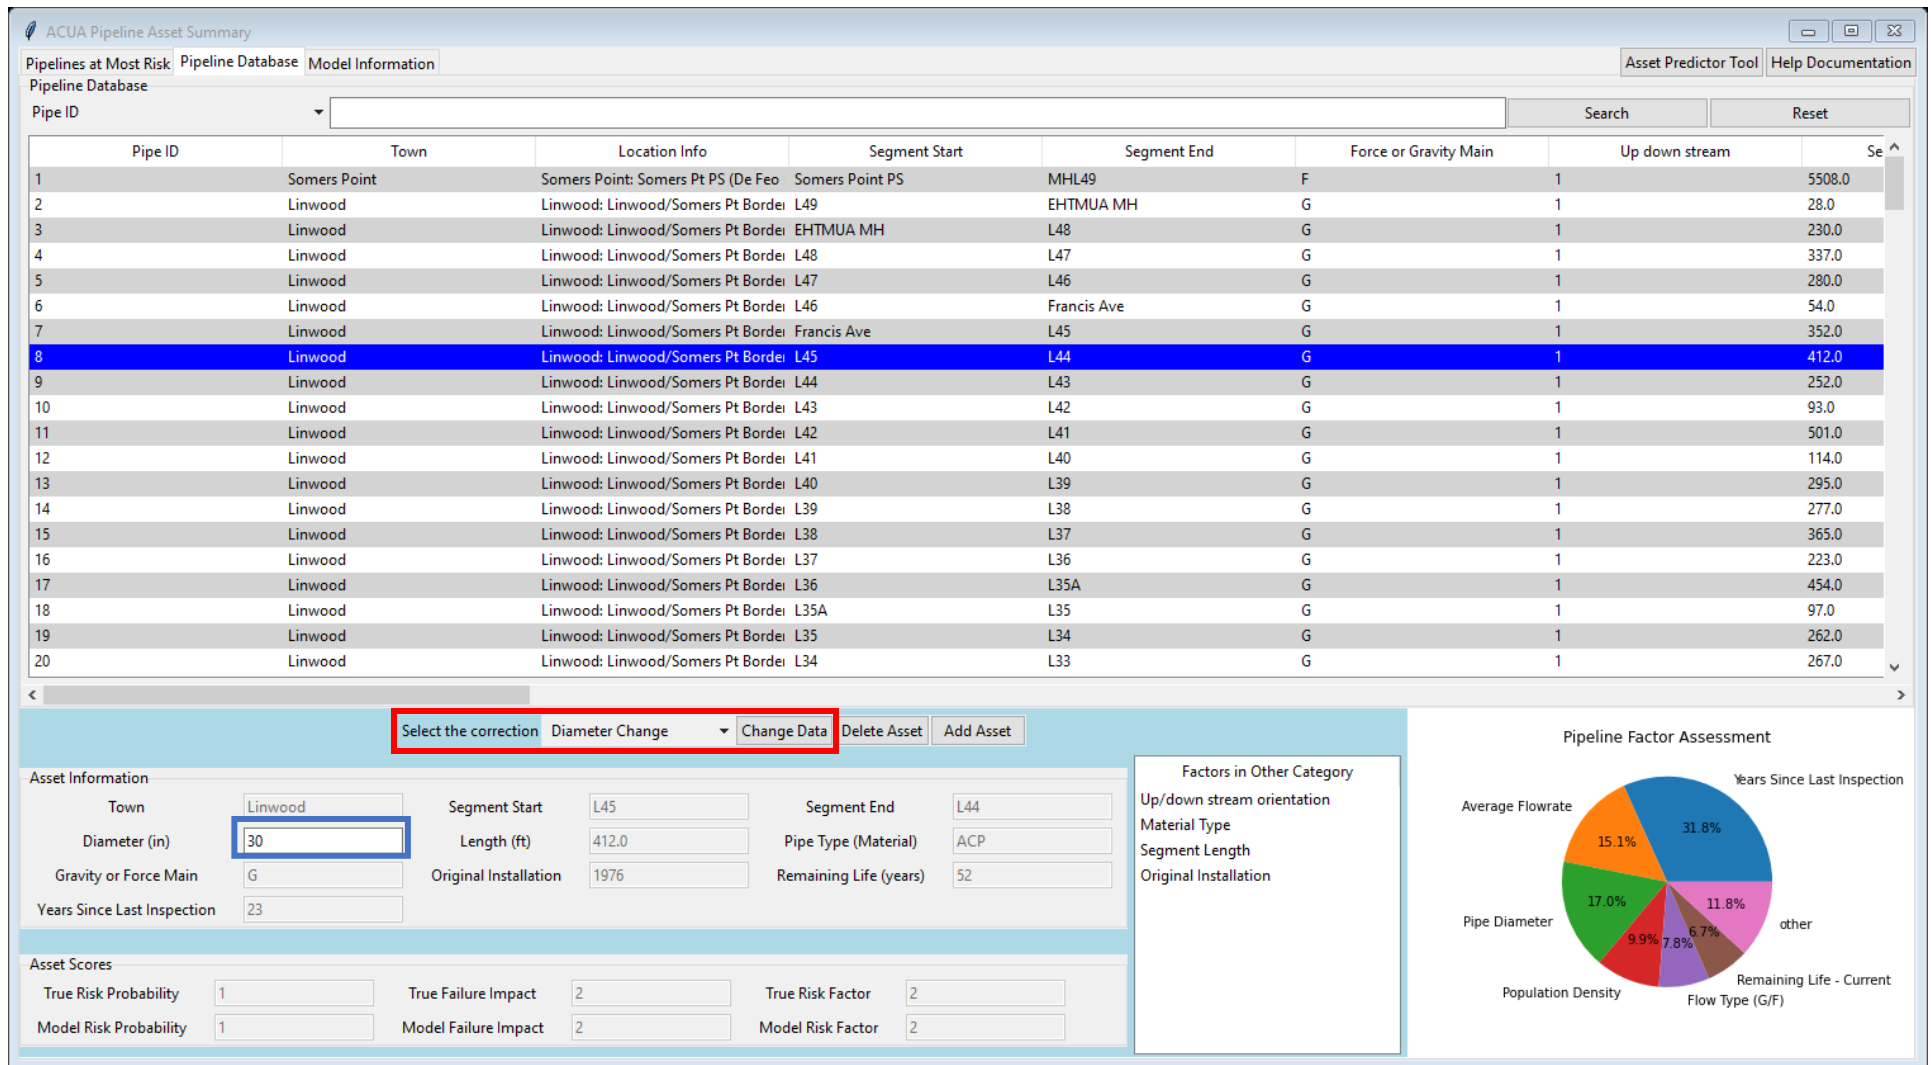

Figure 8: Changing Asset information function
- a. The drop-down is in the red box in Figure 8
- a. The drop-down in Figure 8 is set to a diameter change and the corresponding text box for the diameter is white. (Shown in a blue outline)